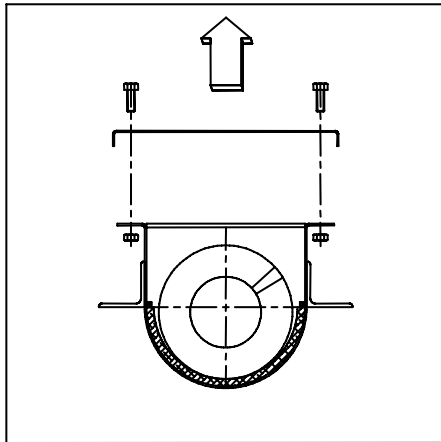

Figure 5.2a - Taking off the Cover
1. Empty the conveyor of material. Unfasten the lid and remove or push it back from the trough (see Fig 5.2a).